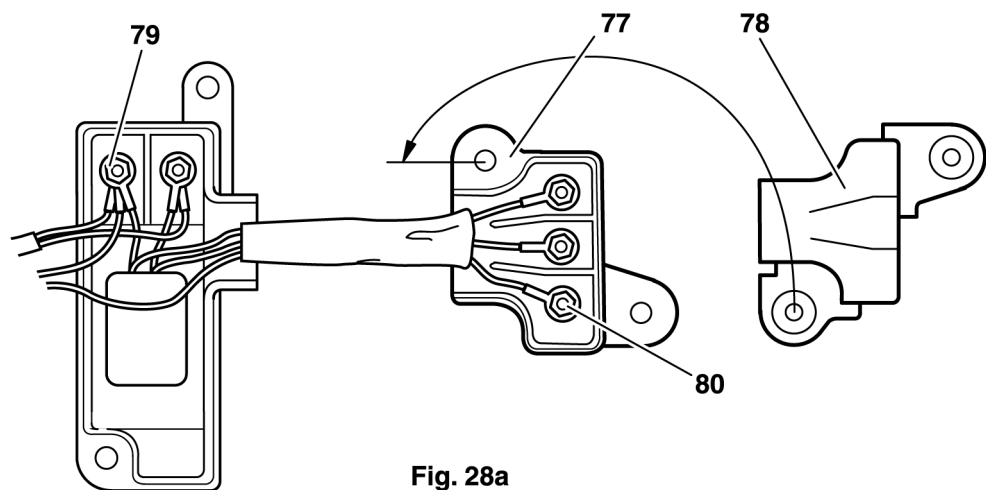

Fig. 28a
- Remove plug cover 78 (fig. 28a).
- Turn out nuts 79 and 80 with a 5.5 mm socket wrench (fig. 28a).
- Push both lead eyelets onto the threaded studs and fasten them using nuts 79 and 80 (fig. 28a).